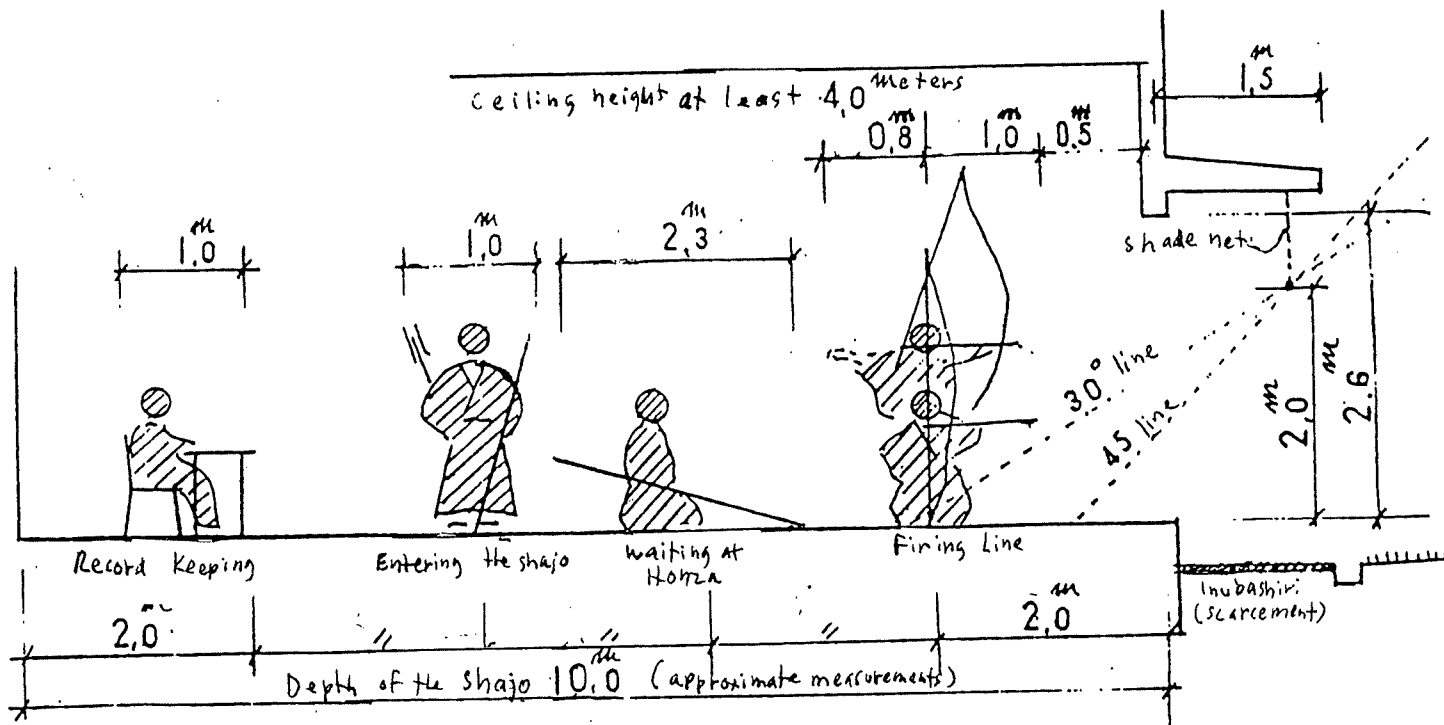

Figure 1 Shajo Interior Space Requirements
1. When shooting in group situations, groups of 3-5 archers carry out a series of actions: entering the dojo, proceeding to *honza* (a waiting line about 2 meters behind the shai), proceeding to the shai, and leaving the dojo after shooting. This requires the space shown in Figure 1 below.
2. Additional space is required in the rear of the dojo for the *kirokuseki* (record keeping area) when tournaments are held, or for observers' seating, waiting space, or temporary equipment storage during practice, so a total depth of about 10 meters is required, as shown in Figure 1.